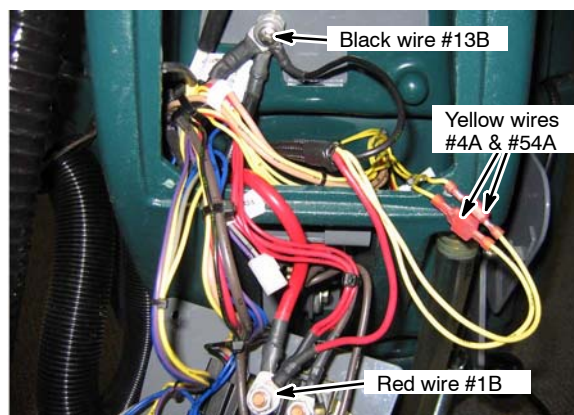

Fig. 6
6. Disconnect the on-board charger wire harness terminals as shown (Fig. 6).